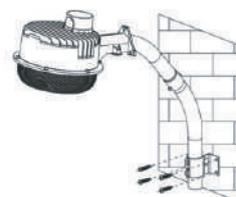

Fig.8
7. Secure luminaire and arm to surface using four provided mounting screws, as shown in Fig 8 .